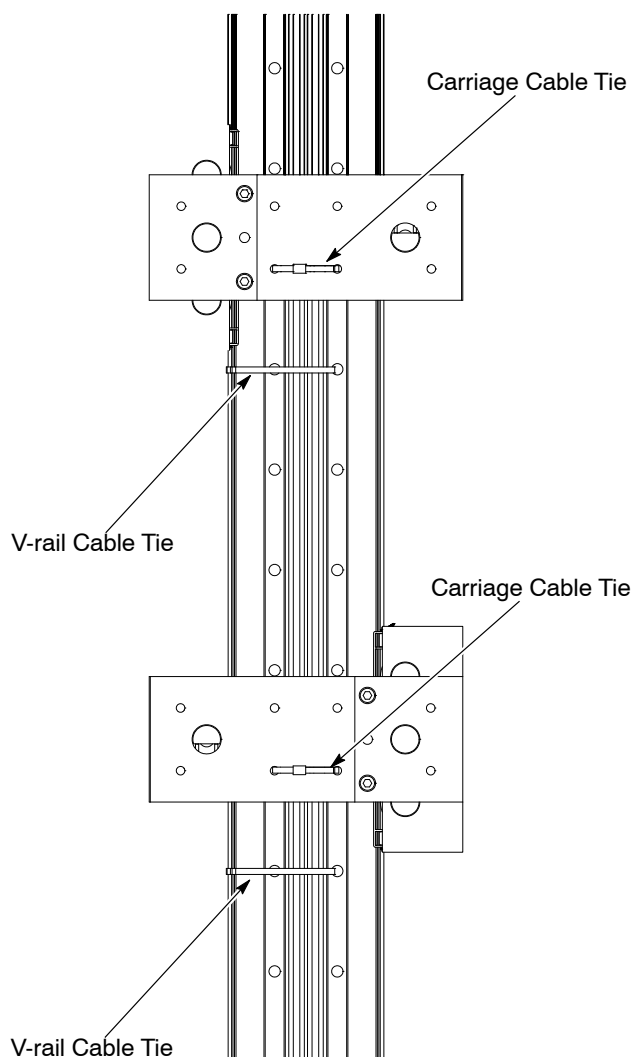

Figure 4 Removing Cable Ties from Carriage Assembly
1. See Figure 4 and 5. Secure the V-rail to the oscillator using the V-rail screws (8).
3. Cut and remove the carriage cable ties and install the gun mounting plate assembly (4) onto the upper and lower carriages (1) using the gun plate screws (5).
5. Apply grease to the threads of the connecting rod screw (7). Install the connecting rod (2) using the connection rod washer (6) and screw (7). Torque to 90–100 ft lbs.